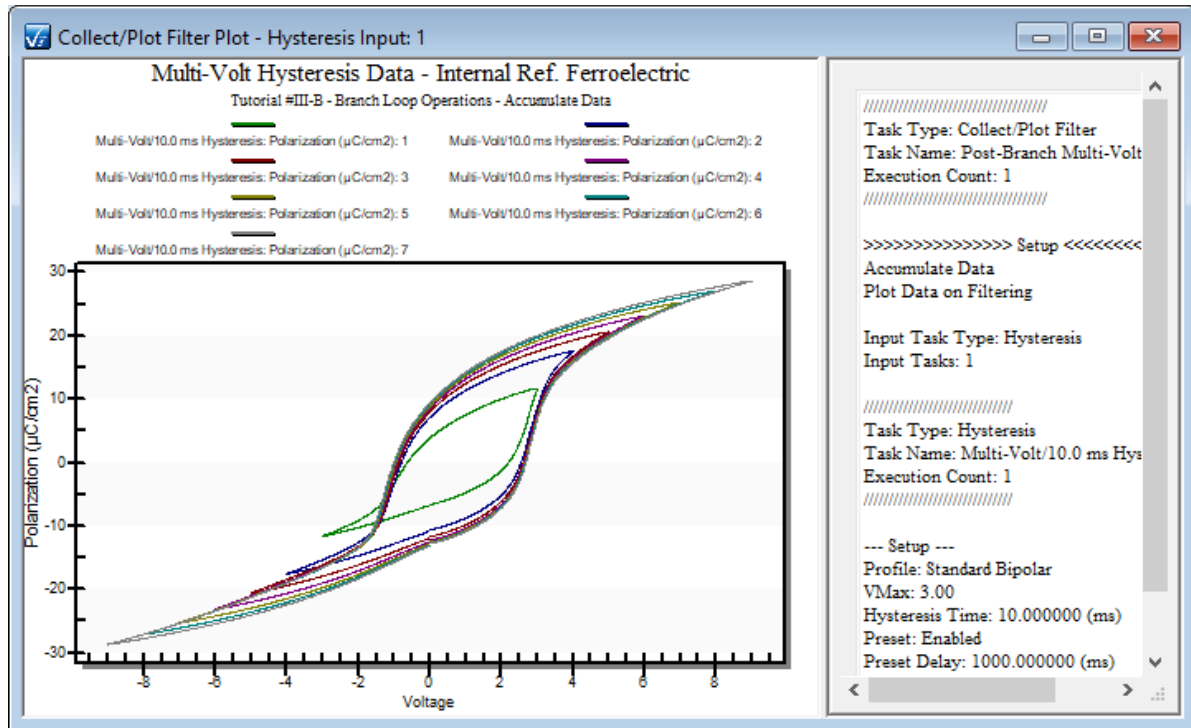

Figure 24 - Data Presented By Filter After the Branch Loop Terminates. Accumulate Mode.
5. Execute the CTD. The data appear as in **Figure 24**.